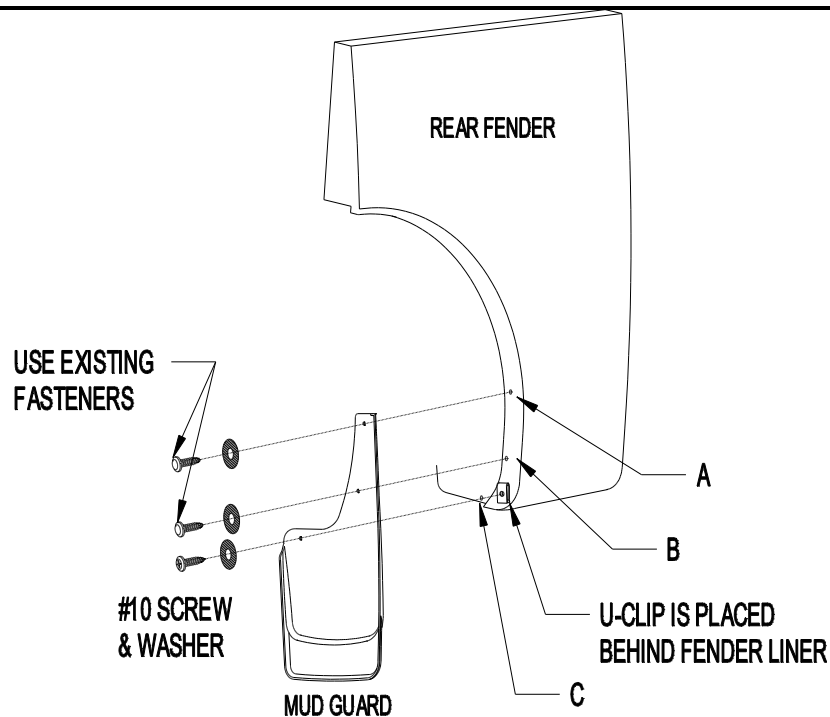

Figure 1
2. Remove existing fastener from location A and B (see Figure 1).
4. Using mud guard as a template, mark and drill 1/8" hole at location C (Figure 1).